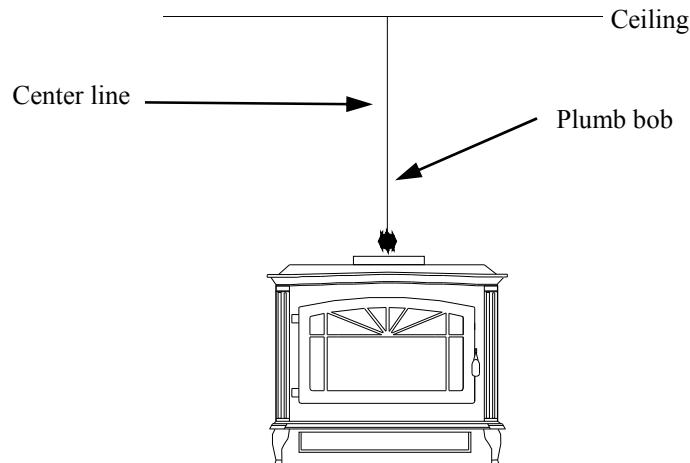

Figure 6
1. Suspend a plumb bob from the ceiling above the unit so that the weight is hanging in the center of the flue exit (See Figure 6). (A small weight on a string will serve as a plumb bob.) Mark the ceiling where the string is suspended to locate the center of the chimney.